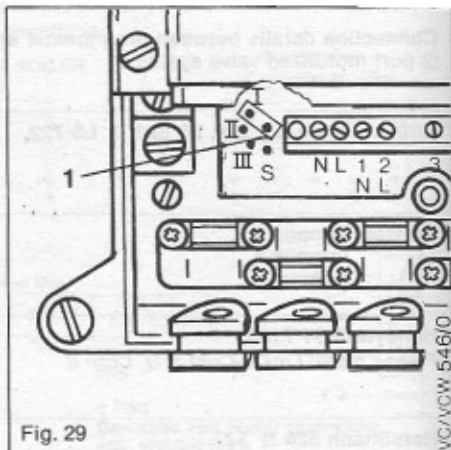

Fig. 29
In the factory, the heating system pump is set to operating mode (I) (electrical connection to contact I — see fig. 29).